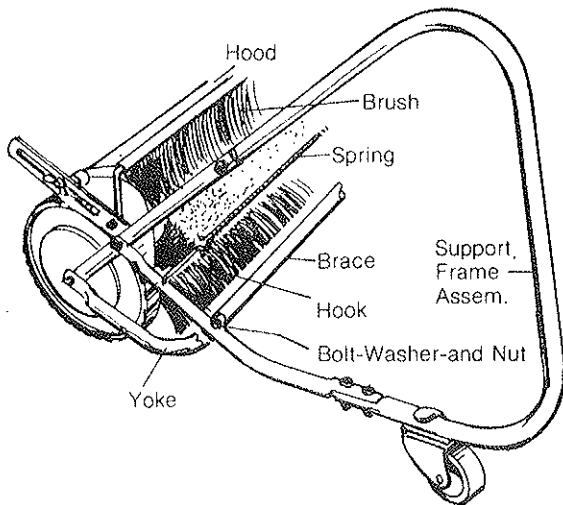

Figure 5
3. Fig. 5 & 6 - Attach the Spring to the Hooks on the Support Frame Assembly. Now position the Yoke in front of the Wheels. Lay the Sweeper Unit on its side to do this, then return the Unit to its floor position.